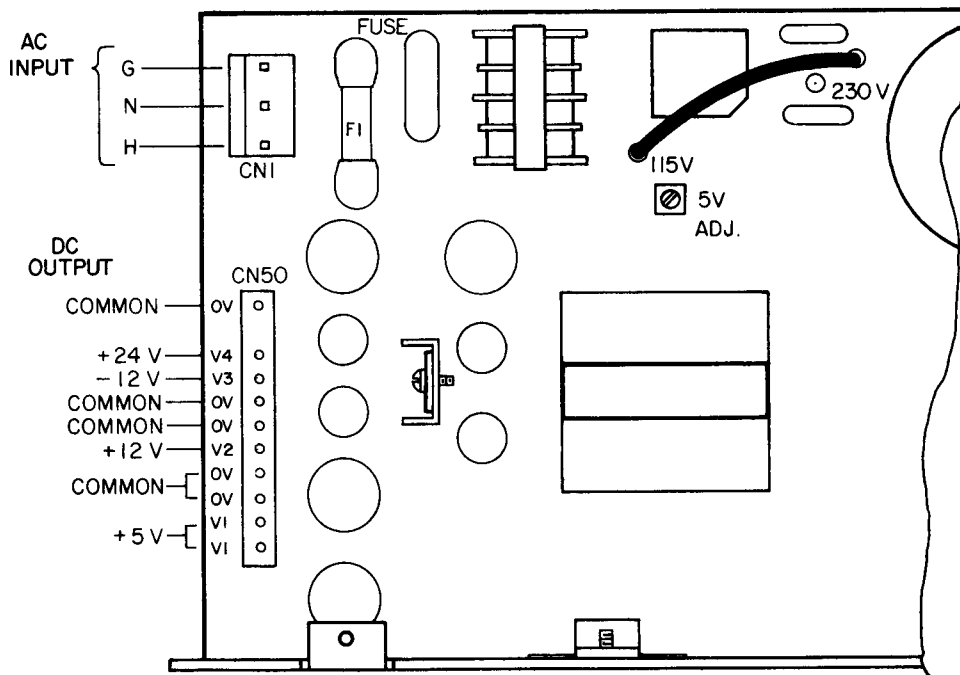

FIG. 1 SIMPLIFIED TOP VIEW, MODEL EMR 500K POWER SUPPLY.
(1) Set to this value at full load at 25°C ambient temperature by means of an internal trim pot. (See Fig. 1). All other outputs are fixed and interdependent.
**INPUT VOLTAGE SELECTION (See FIG. 1).** The Model EMR 500K power supply is delivered for operation on 85 to 130V a-c power lines (wire-jumper in the "115V" position.) For operation on 170-260V a-c power lines, change the jumper to the "230V" position.
**TERMINATIONS:** See FIG. 1.